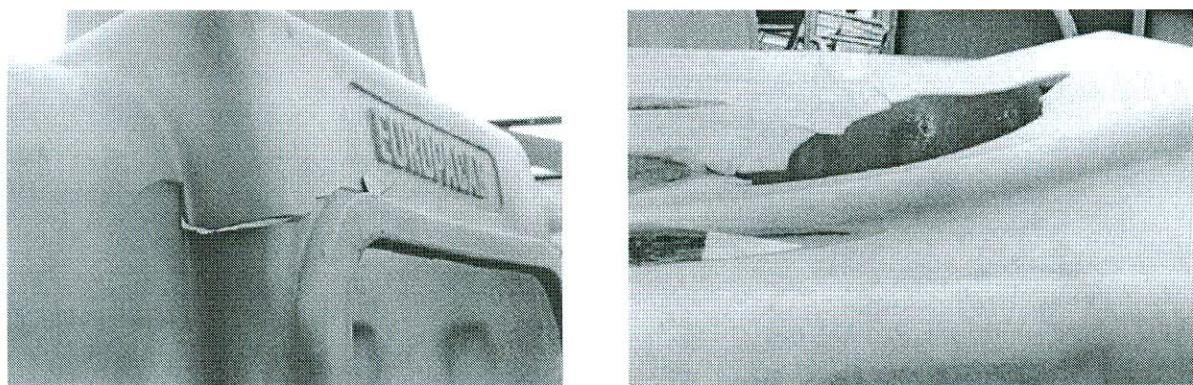

Figure 7: Visible cracking on upper parts of the “mancabs” shelter
6. [a] Rotational moulded ‘mancabs’ for the shelter of workmen at the roadside experienced a significant cracking problem. It was discovered that the failure concentrated only on the upper part (i.e. roof) of the shelter (refer to Figure 7).